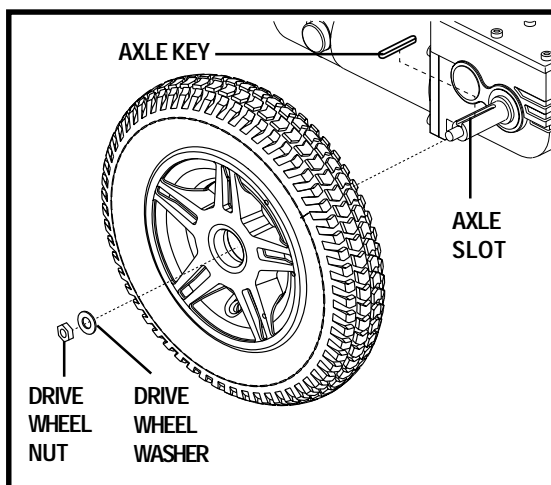

Figure 27. Jazzy 600 Drive Wheel
4. Remove the drive wheel nut and washer from the axle. See figure 27.